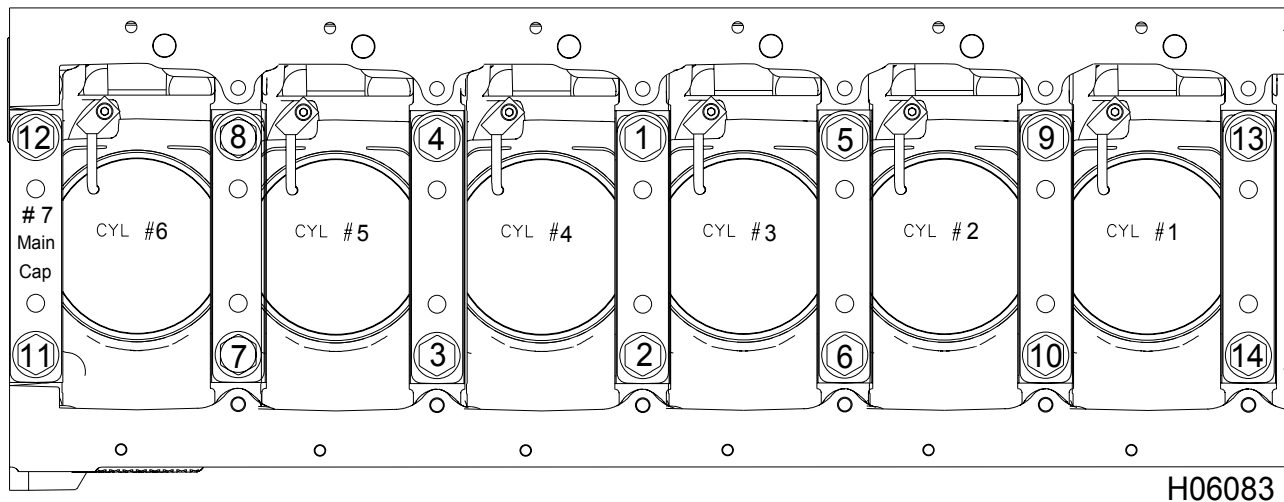

Figure 395 Recommended main bearing bolt torque sequence
1. Tighten each main bearing bolt to 136 N·m (100 lbf-ft) using the recommended torque sequence (Figure 395).
2. Tighten each main bearing bolt to 177 N·m (130 lbf·ft) using the recommended torque sequence (Figure 395).